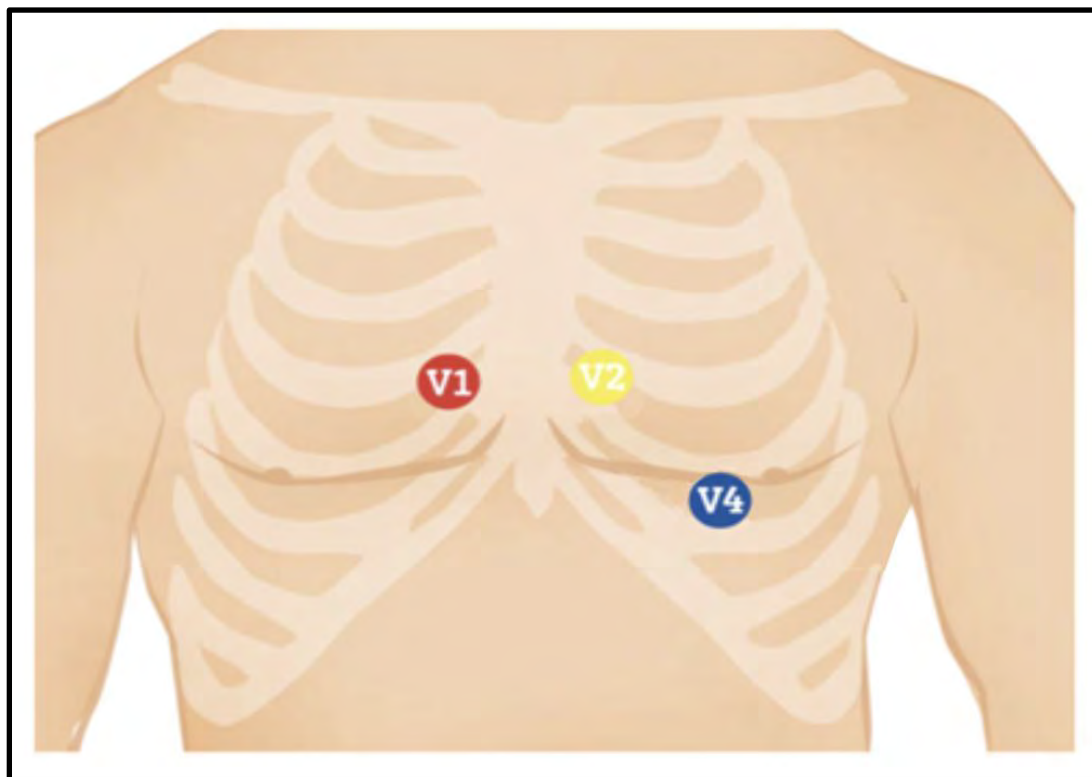

Figure 1: V1, V2 and V4 Electrode Placements
6. Place the gel electrodes in the locations of one of the following lead sets (5 total electrodes). See Figure 1 below.